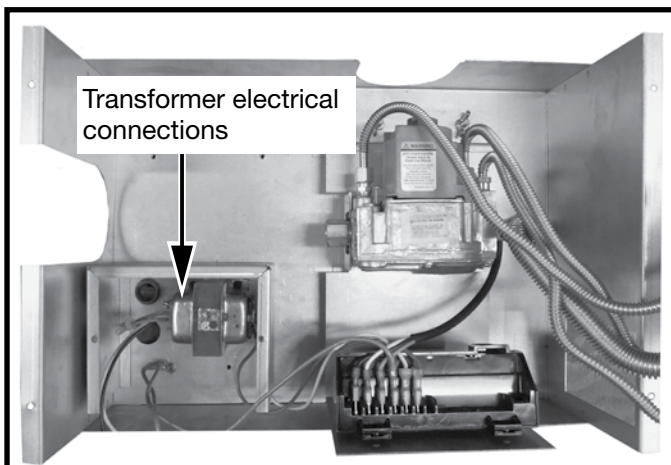

Figure 27: Transformer connections.
5. Run one 110 V. AC switched electrical supplies to the control box and connect to the transformer (Figure 27). The fireplace operates on 24V AC supplied by a transformer rated at 110 volts, 60Hz. See wiring diagram on page 38 for correct connections on terminal block.